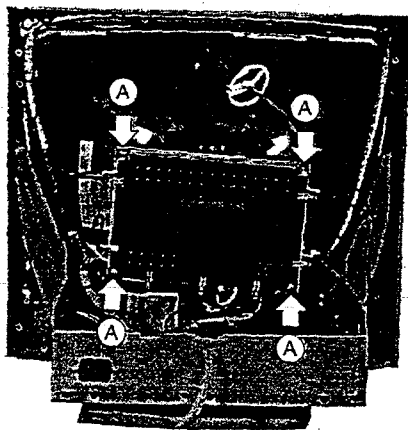

Figure 2-5 Remove the Neck Shield
10. Remove the four screws from the neck shield. Refer to the figure 2-5 (A).